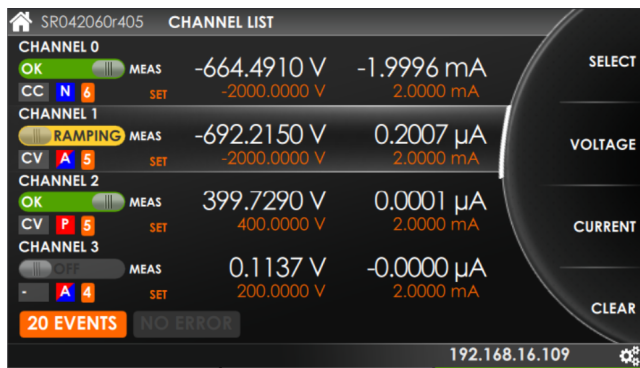

Figure 11: SHRcontrol CHANNELLIST VIEW
- All Channels and device: Click on the event / error badge on the bottom of the screen (here „7 EVENTS“, see Figure 11 - SHRcontrol CHANNELLIST VIEW)